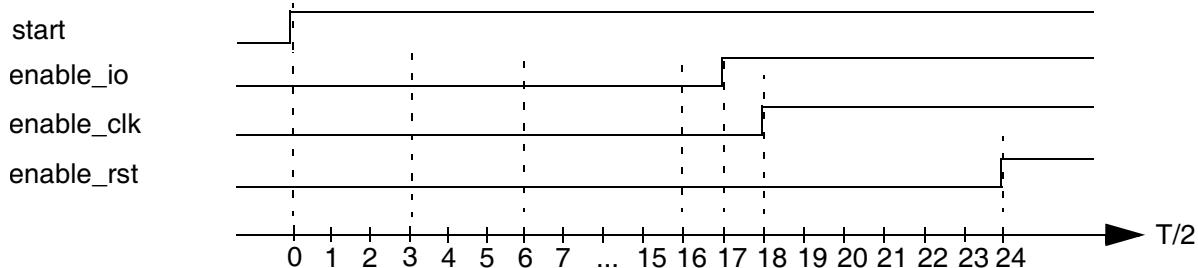
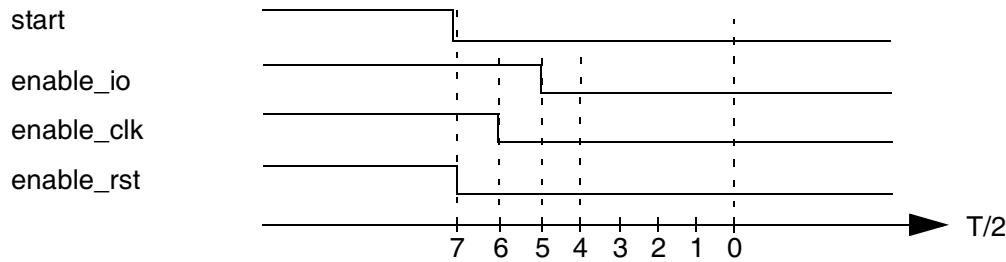

Fig 90. Activation Sequence
Fig 91. Deactivation Sequence
- The activation sequence is stopped between 0 and the rising of enable_io on Figure 90. The deactivation sequence will start from 4T/2 on Figure 91 and go to 0.
- The activation sequence is stopped between the rising of enable_io and the rising of enable_rst on Figure 90. The deactivation sequence will start from 6T/2 on Figure 91 and go to 0.
- The activation sequence is stopped after the rising of enable_rst on Figure 90. It is the normal case: the deactivation sequence will start from 7T/2 on Figure 91 and go to 0.